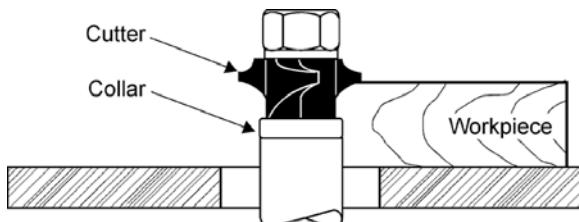

Figure 42
1. When the collar is used below the cutter, as shown in Figure 42, the progress of the cut can be seen throughout the operation. However, any accidental lifting of the work will gouge the wood and ruin the workpiece.